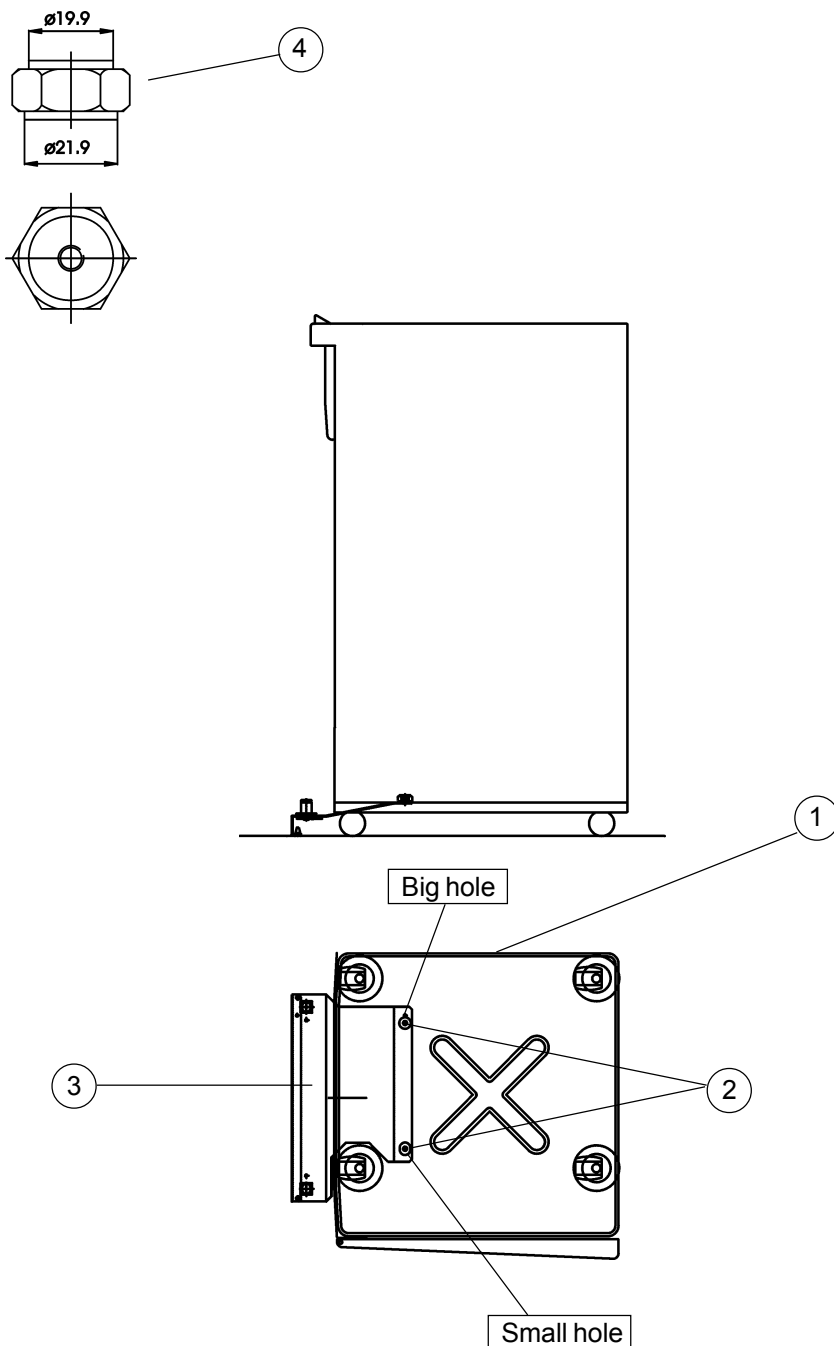

Figure 7
2. Remove the rear cover on the printer finisher (1), figure 7.
4. Remove the two black plastic covers (2) at the bottom of the printer finisher by removing two 5.5 mm screws, figure 7.
5. Take the docking assembly (3) and install it with two positioning screws (4) in the holes who were under the black plastic covers (2). Make sure you turn the screws correct, one side for the small hole and one side for the big hole.